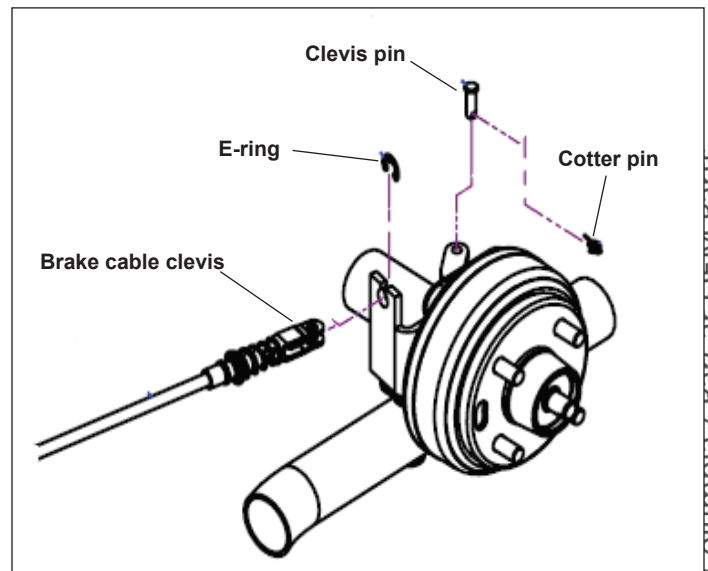

Figure 5-4. Brake Cable Rear Mounting
1. At rear brake assembly (Figure 5-4), remove cotter pin, clevis pin and e-ring (23) from brake cable clevis. Discard cotter pin and e-ring.
7. Route brake cables to rear axle brake actuator arms (Figure 5-4). Secure cable clevis end to each arm with clevis pin and new cotter pin. Secure cable sheath with new e-ring.